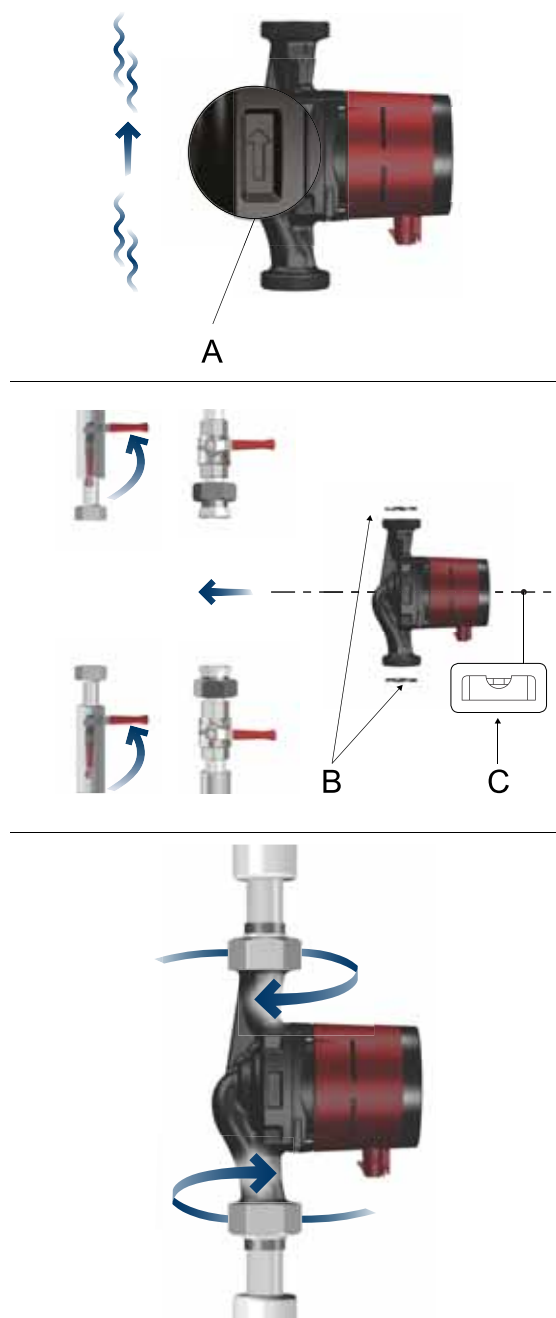

Fig. 1 Mounting the product
The arrows on the pump housing indicate the flow direction through the pump. See fig. 1 (A).
1. Fit the two gaskets when you mount the pump in the pipe. See fig. 1 (B).
2. Install the pump with a horizontal motor shaft. See fig. 1 (C). See also section 3.3 Control box positions.